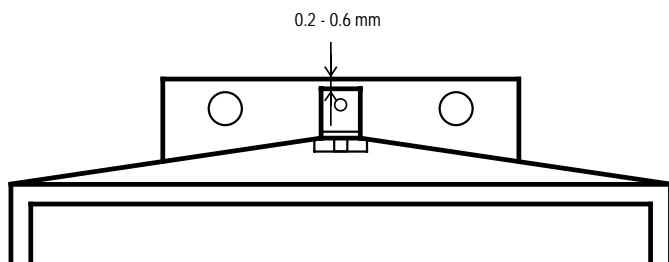

Fig. 5
- Check spindle zero position, see Fig. 5.